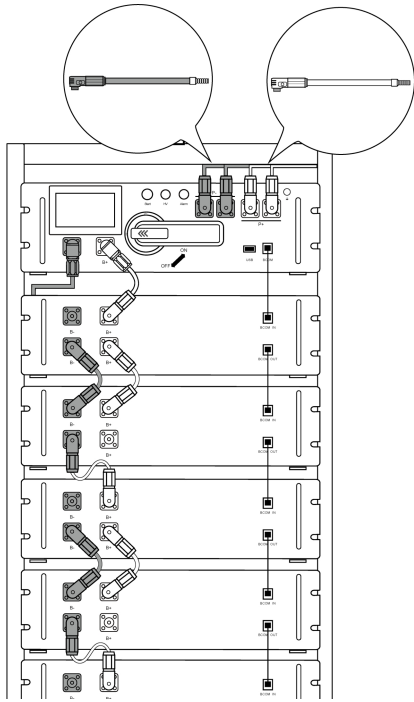

Figure 2-3
3. Attach to the PCS : See the figure 2-3 and figure 2-4.